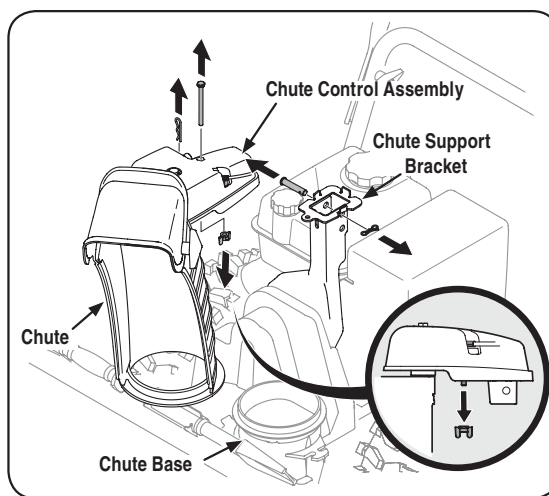

Figure 3-2
1. Remove cotter pin, wing nut and hex screw from chute control assembly and clevis pin and cotter pin from chute support bracket. See Figure 3-2.
8. Finish securing chute rotation assembly to chute support bracket with wing nut, clevis pin and cotter pin removed earlier. See Figure 3-2.